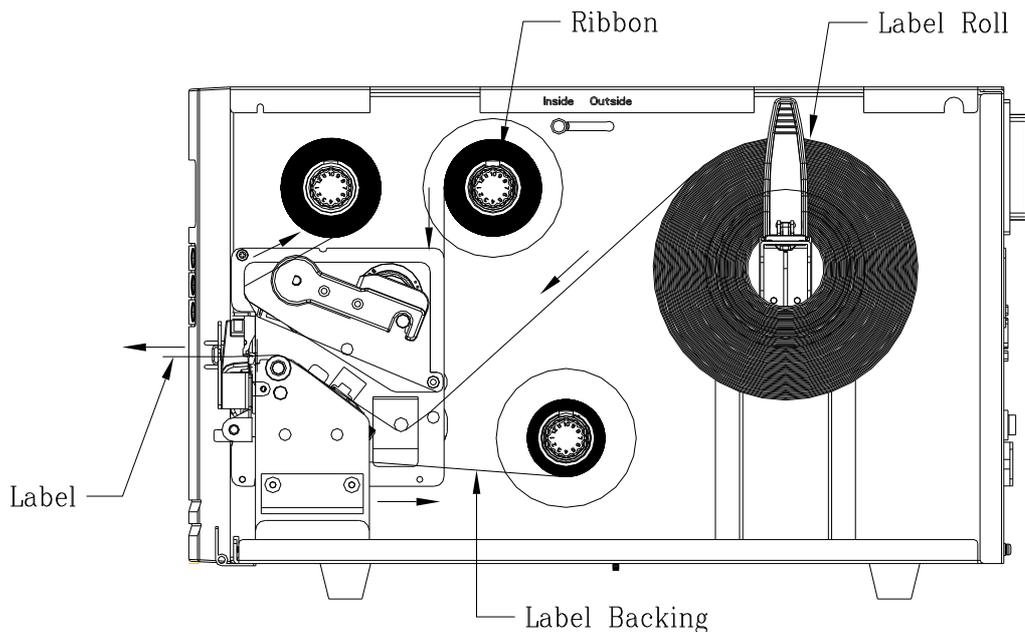

Figure 7.6
5. Install the ribbon and the media. As figure 7.6.